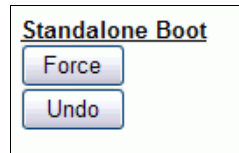

Figure 4-20 RSA II Web interface: Standalone Boot buttons
- ▶ Standalone Boot buttons are shown in Figure 4-20.